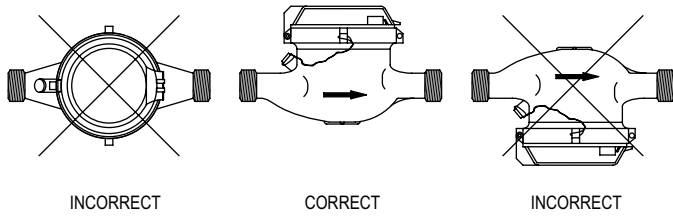

Figure 1
3. Set the meter in the line. Install in a horizontal plane with the meter face upright in a location accessible for reading, service and inspection. There are arrows located on the side of the meter and above the outlet spud which indicate the direction of flow. See Figure 1 for correct alignment.